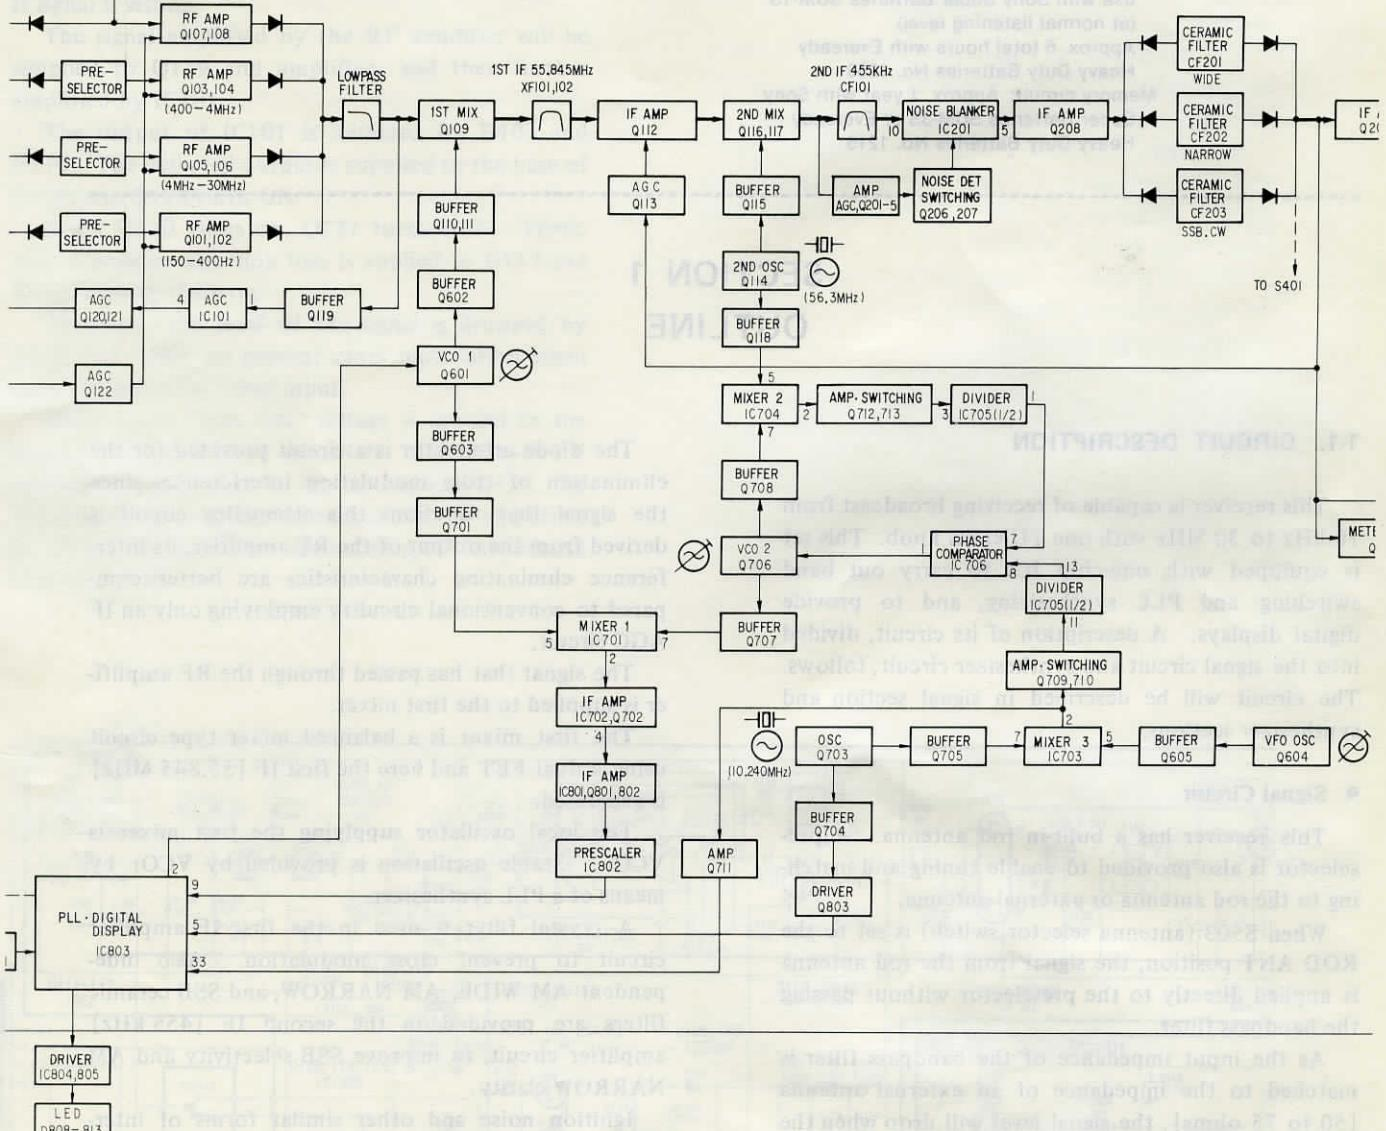

Fig. 3
Figure 3 shows a block diagram of this circuit.
- PLL Circuit (See Fig. 3.)